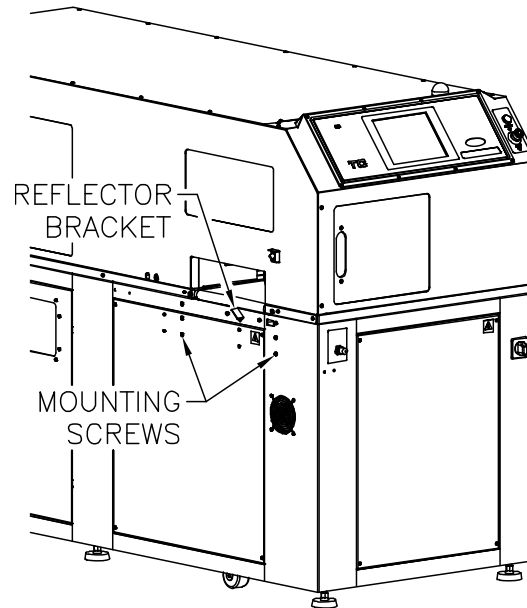

Figure 2-24. Hand Feed Mounting Hardware
2. Remove (6) sets of screws and washers fastened to the left side of the trimmer as shown in Figure 2-24. Save them for later use.
3. Make sure the reflector bracket is in place as shown in Figure 2-24.